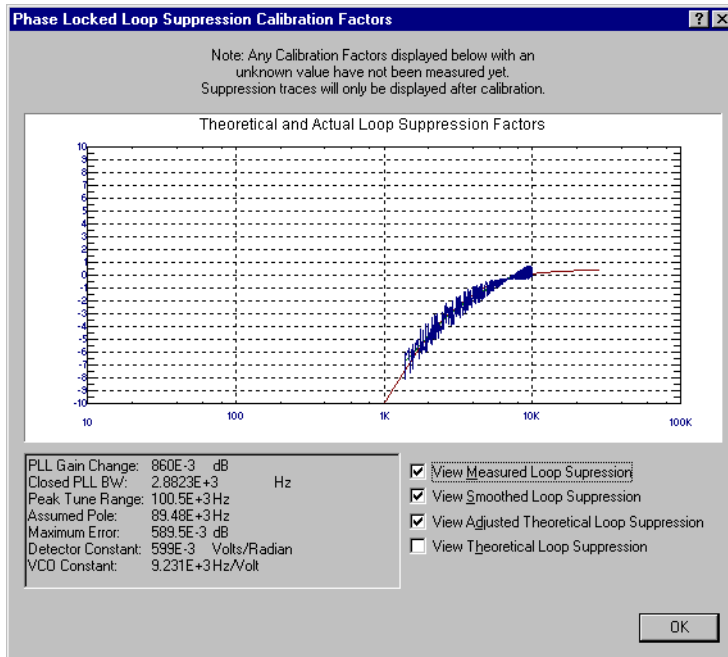

Figure 5-21 Selecting Suppression
- 2 When the PLL Suppression Curve dialog box appears, select **View Measured Loop Suppression**, **View Smoothed Loop Suppression**, and **View Adjusted Loop Suppression** in the lower right of the dialog box. See Figure 5-21.